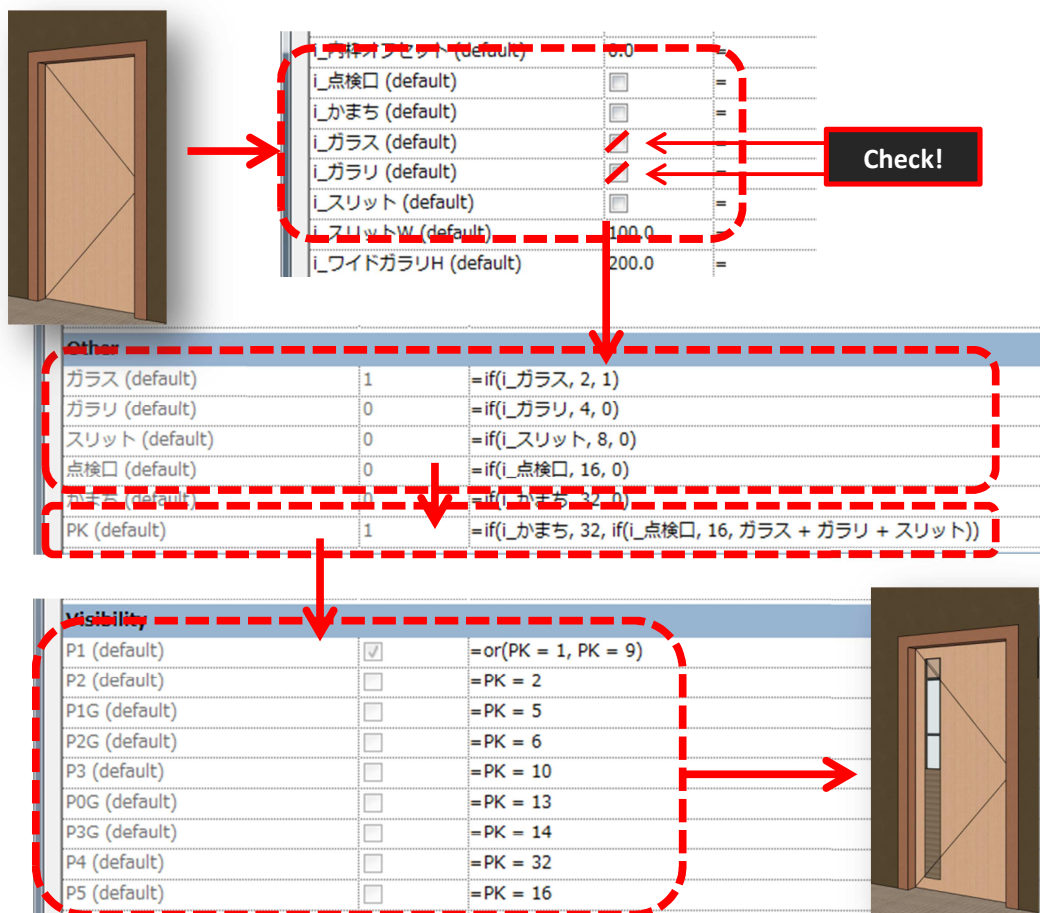

FIGURE I.2 THE YES/NO PARAMETERS AND THEIR ROLE IN NESTED FAMILY VISIBILITY LOGIC.
- 4.) When applying yes/no parameter combinations to control the visibility of nested families, assign a yes/no parameter to the nested families' visibility parameter, create several integer parameters and apply power-of-two logic formulas that triggers visibility. Refer to Figure I.2.